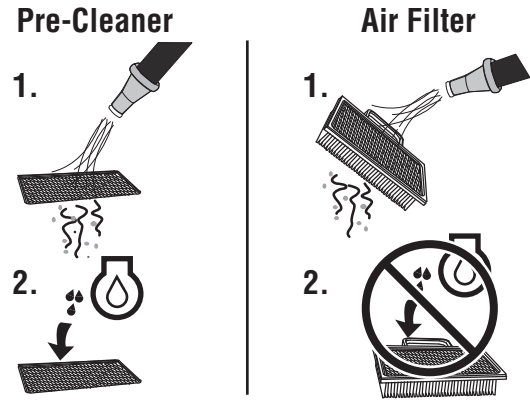

Figure 42. Air Filter Service
1. Figure 42. Wash the pre-cleaner in liquid detergent and water.
1. Figure 42. If stamped "Washable," the filter can be washed with warm water and mild soap.